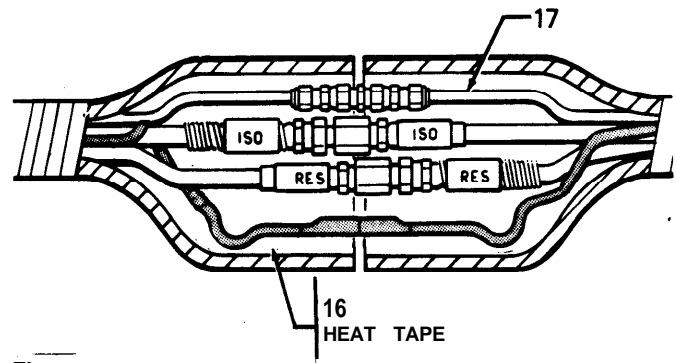

Fig 2
9. Assemble the main heated hoses (102).
- a. Connect the corresponding fluid hoses of each 50 foot (15.2 m) assembly. See Fig 2.
- b. A few inches back from the heat tape connectors, bend the heat tape ON BOTH SIDES OF CONNECTORS to take up slack. See Fig 2. Then couple the heat tapes.